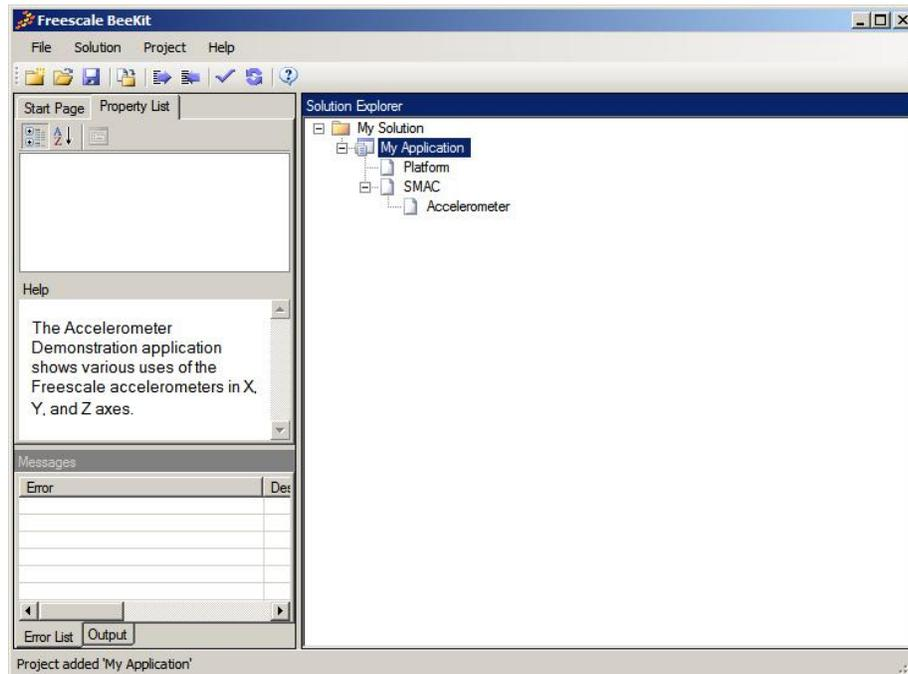

Figure 5. BeeKit Main Window
10. The BeeKit main window appears with the My Solution and My Application open in the Solution Explorer area as shown in Figure 5.
1. Click on the Platform software component and use the available menus to configure it (Figure 5) with the following options: